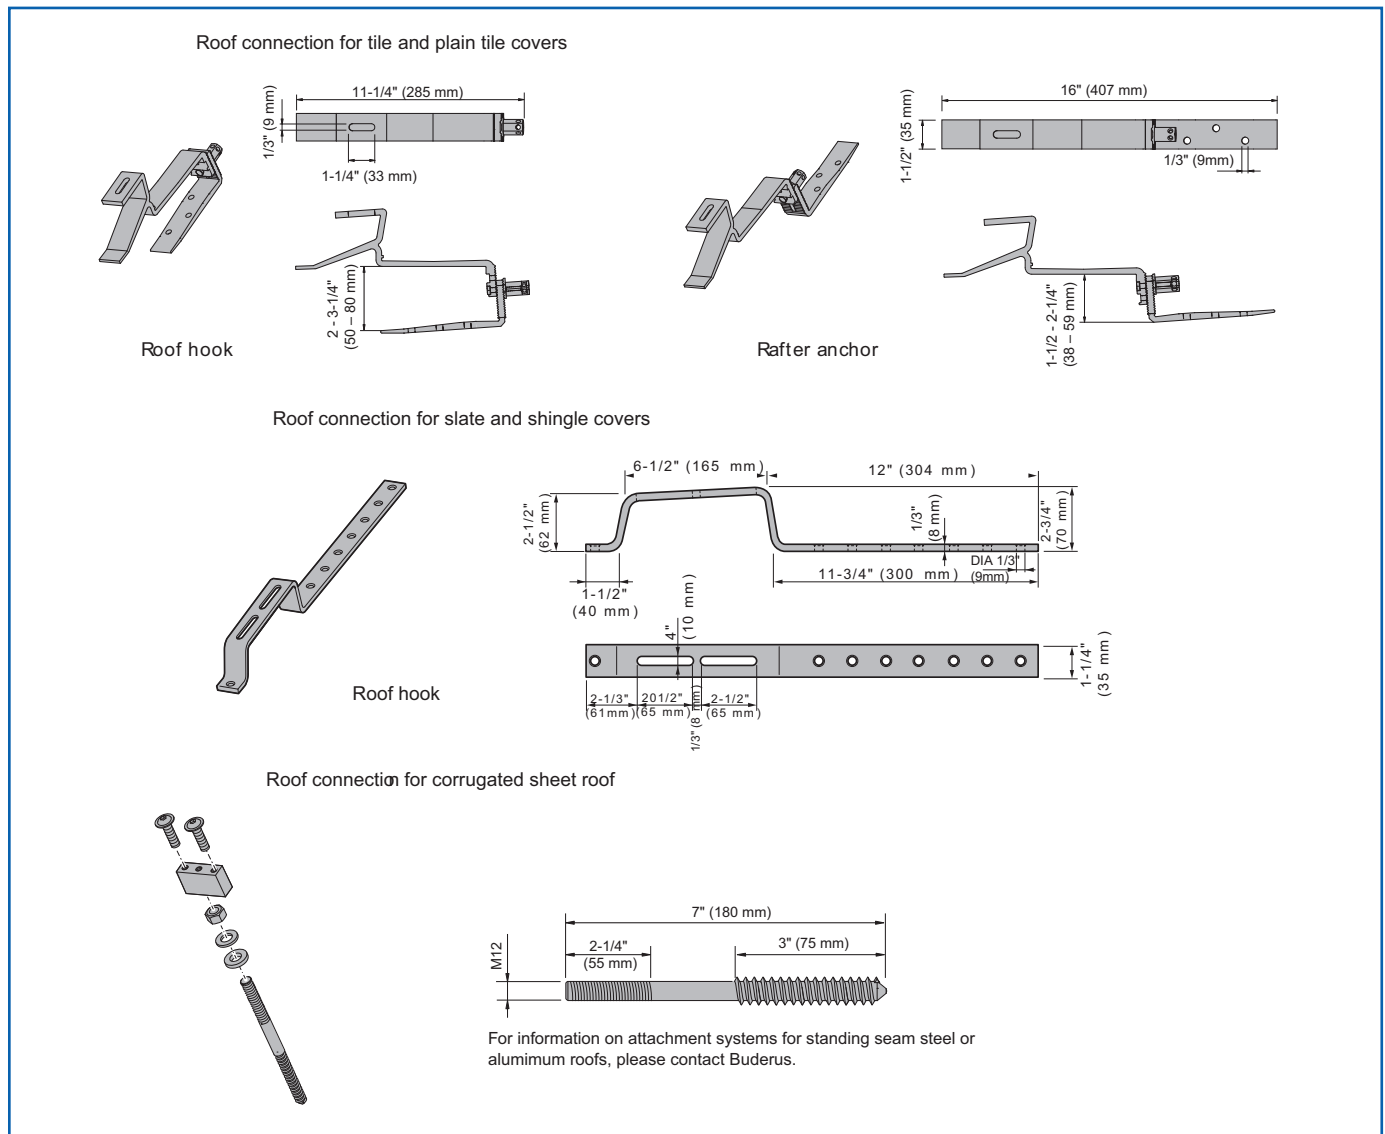
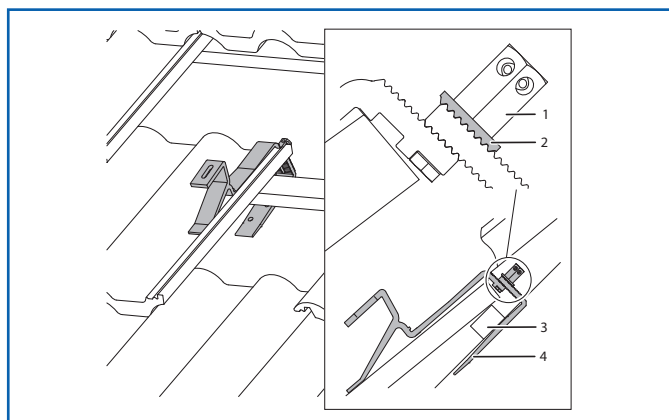
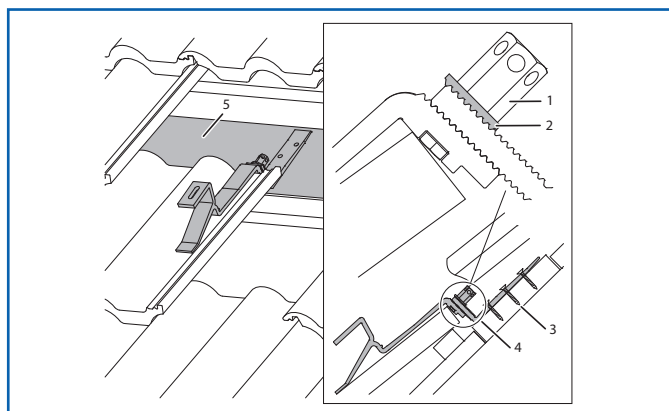

Fig. 124 Roof connection versions for different roof covers (dimensions in inches (mm))
Fig. 126 Installed roof jack
Fig. 127 Roof jack fastened to the sheathing
The rooftop installation kit for Logasol SKN3.0 and SKS4.0 flat-plate collectors consists of a standard kit for the first collector in a row and an extension kit for each additional collector in the same row (Fig. 124). Use the rooftop installation extension kit only in conjunction with a standard kit. In place of the single-side collector tensioner (item 1 Fig. 124) the extension kit contains so-called double-sided collector tensioners (item 5 Fig. 124) and connectors for defining the correct spacing and
The profile rails and collector tensioners of the various rooftop installation kits are identical for all roof connections. The various installation kits for tile and plain tile, slate and shingle cover as well as for corrugated sheet and sheet steel roofs only differ with regard to the type of roof hook (Fig. 124) or special attachment materials used (Fig. 125).
Fig. 125 shows an example for a rooftop installation on a tile roof. On roofs with simple battens, the roof jacks are fastened to the sheathing (Fig. 127). This is done by turning the lower part of the roof jack over. If additional height compensation is needed, the lower section of the roof jack can be shimmed up. On roofs with counter battens, the roof jacks (Fig. 124 and 125) are hooked over the existing roof battens (Fig. 126) and fastened to the profile rails.
### Legend (Fig. 126)
### Legend (Fig. 127)